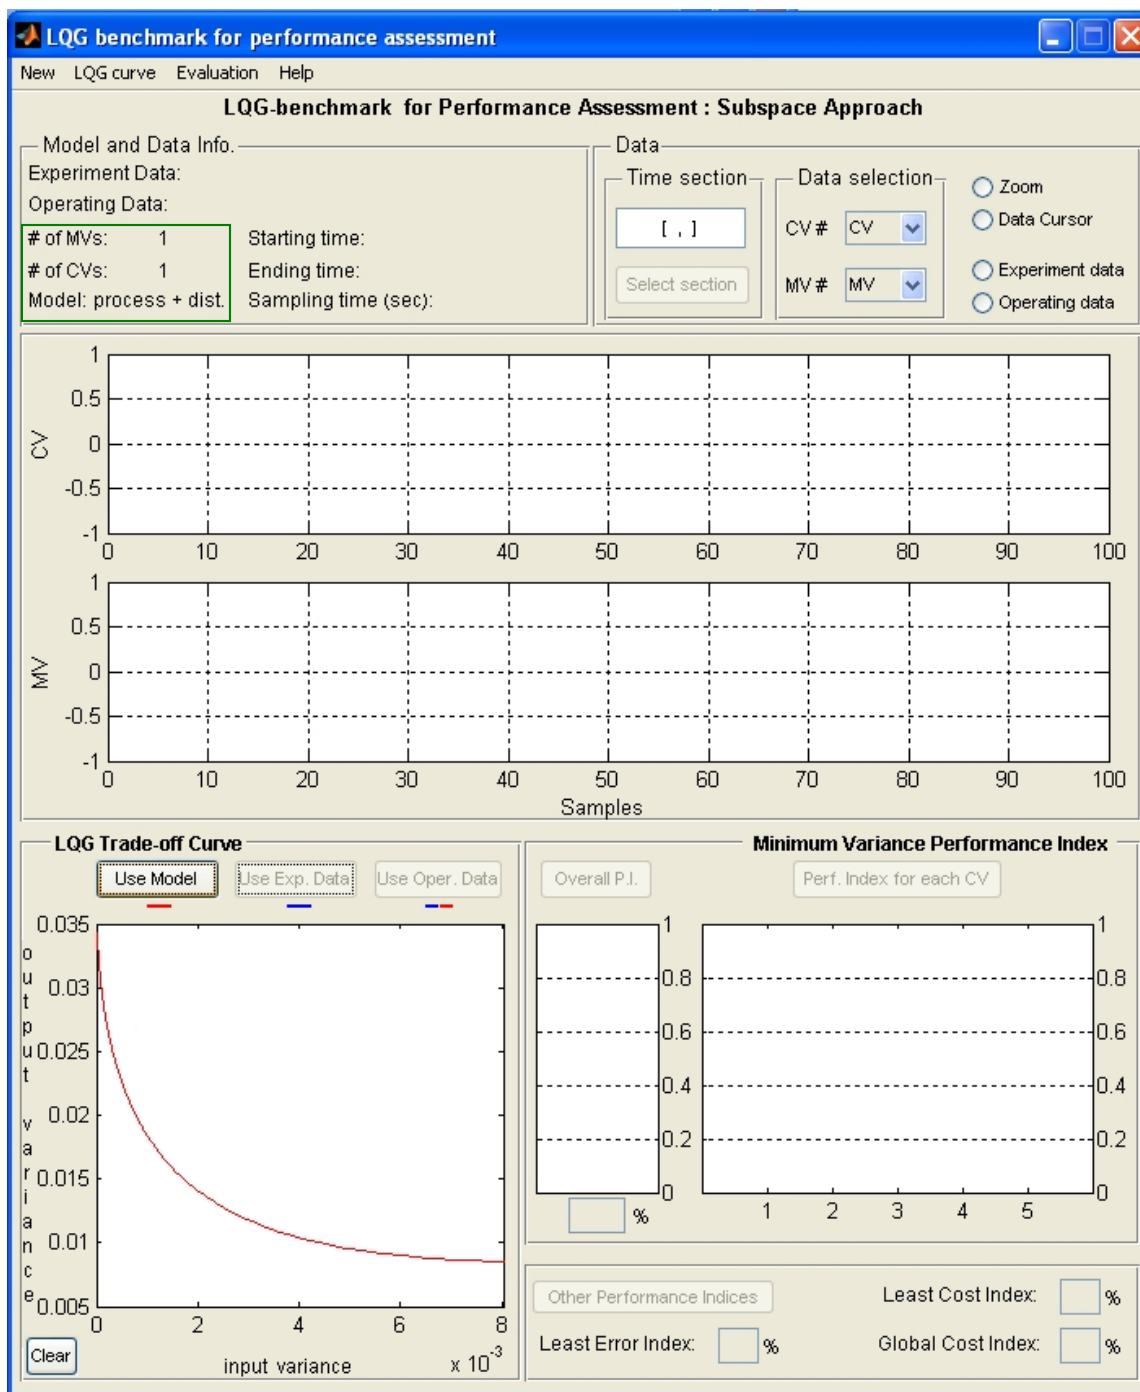

Figure 5: LQG curve calculated using the provided a complete model
| Figure 5: LQG curve calculated using the provided a complete model ..... | 5  |
- 9) If an open-loop model is loaded, you may press the **‘Use Model’** button to generate trade-off curve (in red) as in Figure 5. Depending on the type of process dynamics and number of inputs and outputs, it takes a few seconds to a few minutes to perform the calculation.